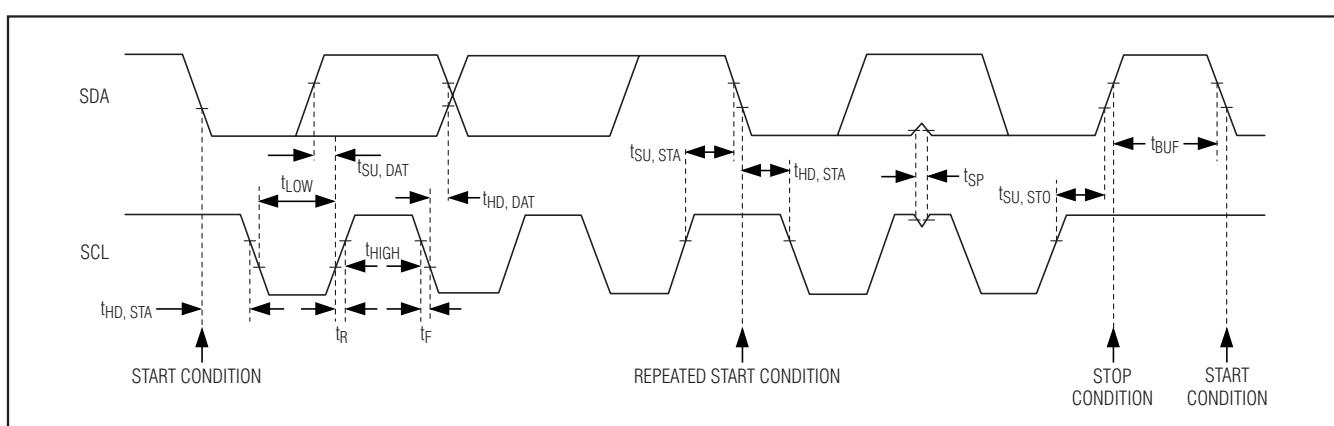

Figure 9. 2-Wire Interface Timing Diagram
The MAX9867 features an I2C/SMBus-compatible, 2-wire serial interface consisting of a serial-data line (SDA) and a serial-clock line (SCL). SDA and SCL facilitate communication between the MAX9867 and the master at clock rates up to 400kHz. Figure 9 shows the 2-wire interface timing diagram. The master generates SCL and initiates data transfer on the bus. The master device writes data to the MAX9867 by transmitting the proper slave address followed by the register address and then the data word. Each transmit sequence is framed by a START (S) or REPEATED START (Sr) condition and a STOP (P) condition. Each word transmitted to the MAX9867 is 8 bits long and is followed by an acknowledge clock pulse. A master reading data from the MAX9867 transmits the proper slave address followed by a series of nine SCL pulses. The MAX9867 transmits data on SDA in sync with the master-generated SCL pulses. The master acknowledges receipt of each byte of data. Each read sequence is framed by a START or REPEATED START condition, a not acknowledge, and a STOP condition. SDA operates as both an input and an open-drain output. A pullup resistor, typically greater than 500Ω is required on SDA. SCL operates only as an input. A pullup resistor, typically greater than 500Ω, is